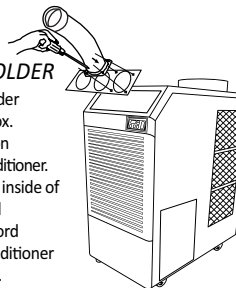

Figure 29
3. Use screws (enclosed inside of box with cool air outlet hose(s)) to install the cool air outlet hose(s) on the air conditioner as shown in Figure 29.